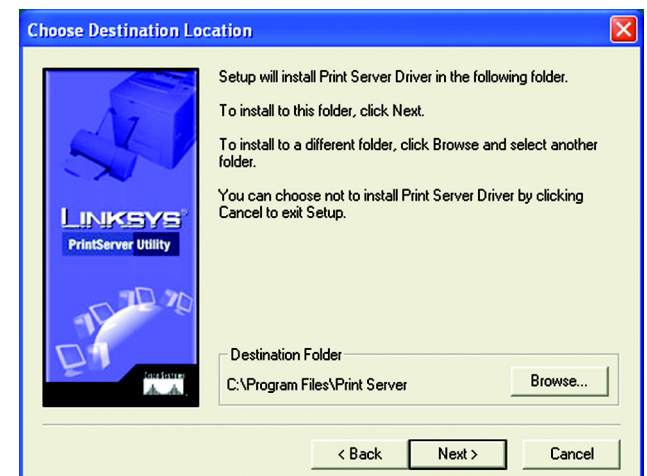

Figure 5-3: Choose Destination Location
5. The *Choose Destination Location* screen, as shown in Figure 5-3, will appear. Choose the location where the driver's folder will be installed. To install the driver in the default location, click **Next**. If you want the folder to be installed in a different location, click the **Browse** button and select the location. Then click **Next**.